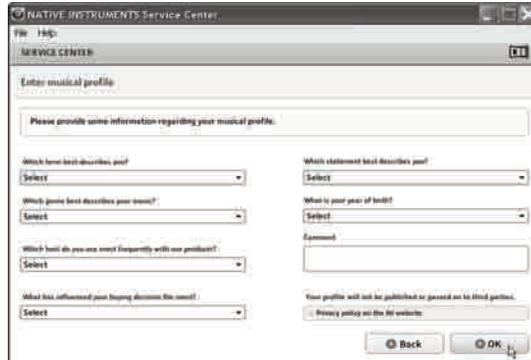

Figure 5.25
- Please provide information about your musical profile and click **OK**. (Figure 5.25)